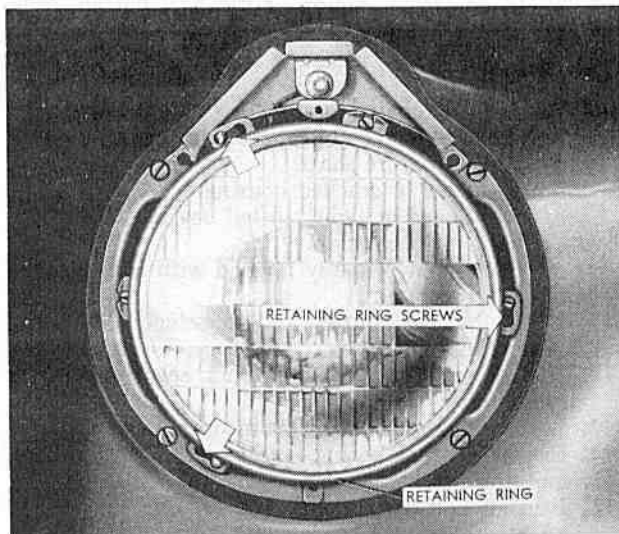

FIG. 113
**CHAMPION AND COMMANDER** Remove the head lamp rim and loosen the three screws in order to remove the sealed beam unit retaining ring (see Fig. 113). Remove the unit retaining ring, taking care that the unit does not fall. Then pull the unit carefully outward and disconnect it by pulling off the socket.